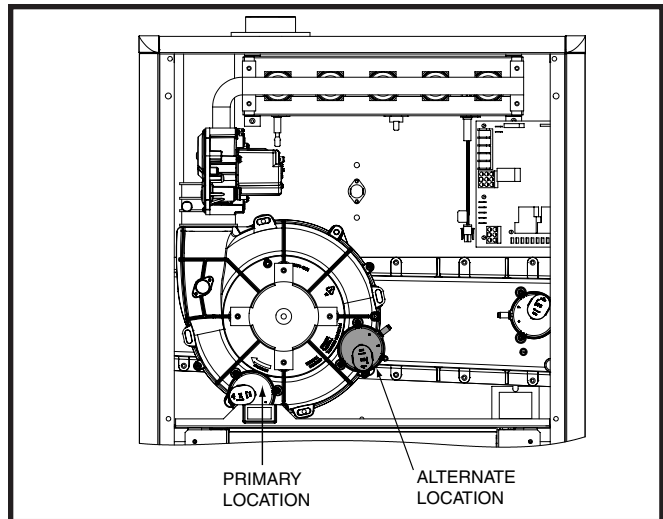

Figure 16. Alternate Pressure Switch Location
2. Label and disconnect the tubing and wires from the pressure switch (Figure 16).